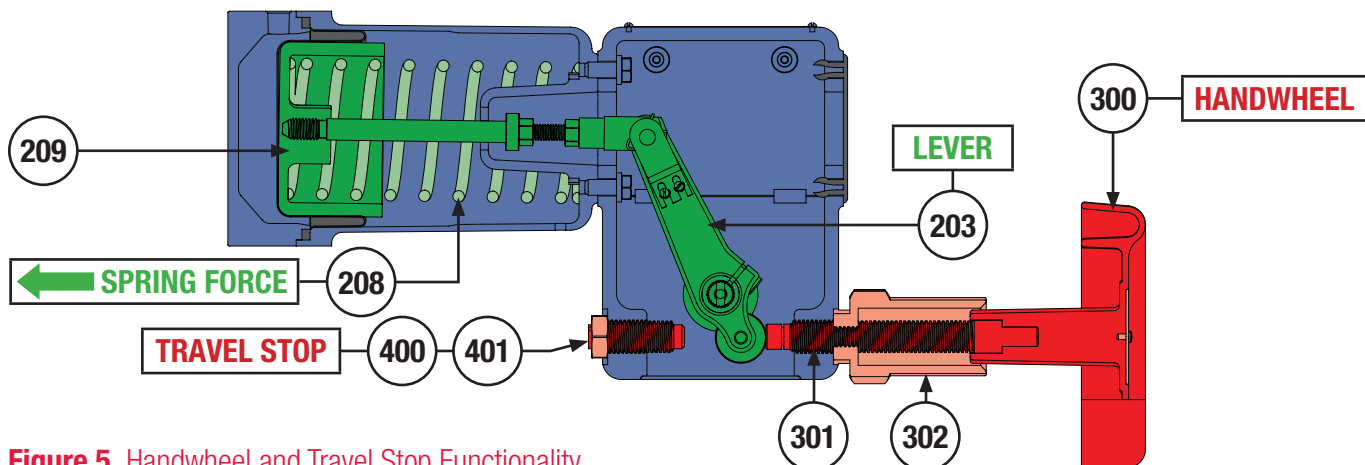

Figure 5 Handwheel and Travel Stop Functionality
- Sudden movement of actuator can cause damage or injury. Remove any operating medium to the actuator before performing any work. Although the handwheel is designed to be used for emergency operation, if the valve assembly is equipped with a handwheel (Key 300) or travel stop (Key 400), it may be possible to adjust these devices and immobilize actuator movement altogether. To adjust the travel stop and handwheel, loosen Keys 302 and 401, refer to Figure 5.
- Sudden movement of actuator can cause damage or injury. Remove any operating medium to the actuator and remove any tension applied by either a travel stop or handwheel before performing any work. To adjust the travel stop and handwheel, loosen Keys 302 and 401, refer to Figure 5.
- 5 If installed, remove any possible interference between a handwheel and/or travel stop with the lever (Key 203). Loosen the handwheel lock (Key 302) and turn the handwheel (Key 300) until the handwheel stem (Key 301) can no longer interfere with the lever. Loosen the locknut (Key 401) and adjust the travel stop (Key 400) (refer to Figure 5). **NOTE:** For smaller sized valve and actuator assemblies, it may be necessary to completely remove the handwheel assembly from the yoke (Key 200). Refer to DISSASSEMBLY, Handwheel (Page 14).